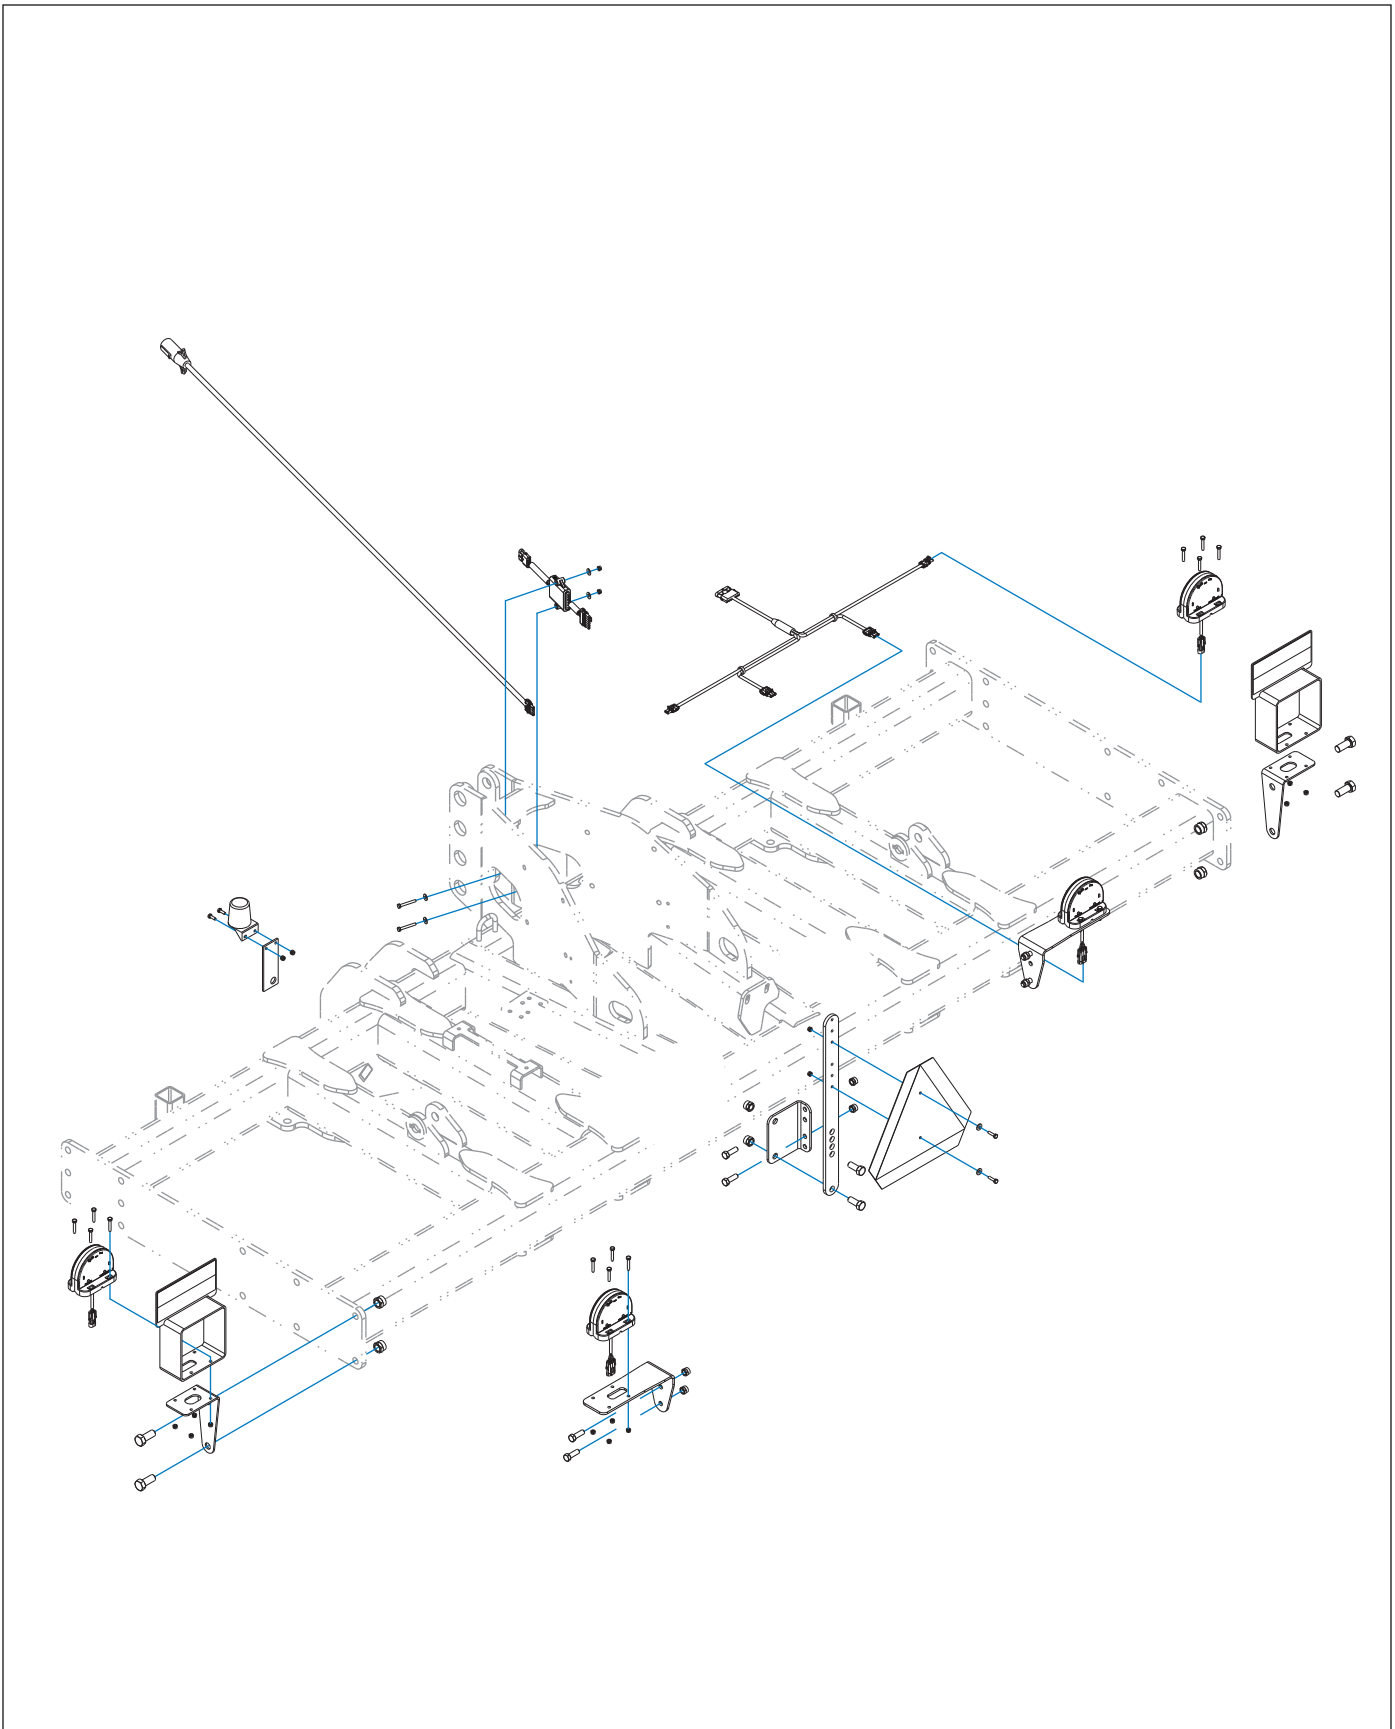

Figure 3-8: LED Light and SMV Bracket Installation
2. Attach SMV emblem to top of SMV mounting bracket using 1/4-20 x 1 hex head cap screws, flat washers, and hex lock nuts (See Figure 3-8.)
1. Attach left and right light brackets with reflectors to frame using warning light bar, 1/2-13 x 7-1/2 hex head cap screws, and hex lock nuts (*See Figures 3-8 through 3-9.*)